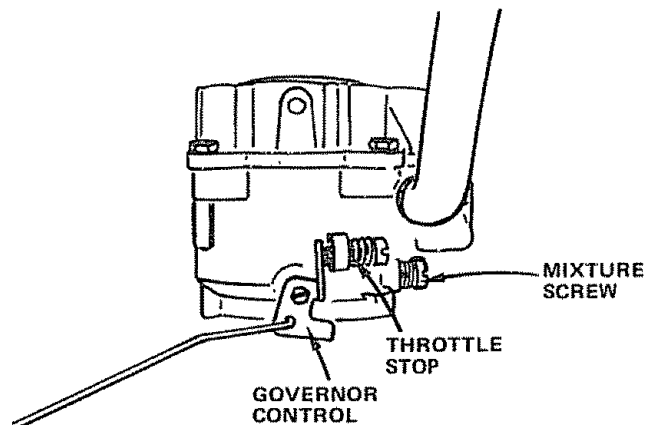

FIGURE 51
- Turn Mixture Screw clockwise (↻) closing finger tight ONLY, and then turn counterclockwise (↺) 1 - 1/2 turns (Fig. 51). CAUTION: VALVE MAY BE DAMAGED IF TURNED IN TOO FAR.
- f. Hold Governor Control against Throttle Stop. Turn Mixture Screw clockwise (↻) until engine begins to run rough (Fig. 51).